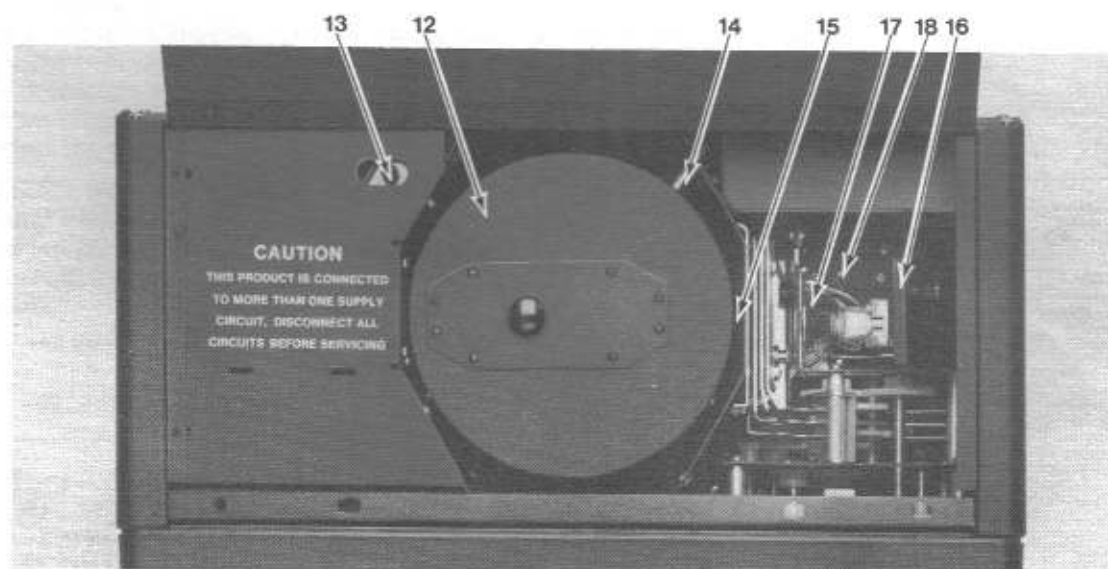

Figure 2
B. Pick up the other chamber and make sure the mixing chamber window (heat absorbing glass — Fig. 2, item 15) and the locating pin (Fig. 2, item 14) are on the right; that is, toward the lamp.
4. Locate the lamp compartment and lift up door (Fig. 2, item 16).